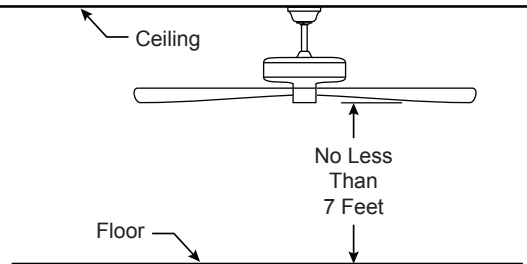

Figure 2
- 6. While pulling up on the hanger ball, securely tighten the two 3/16-24 x 3/8" setscrews in the downrod support. Slide the motor coupling cover down. (Figures 2 & 3)
The fan must be hung with at least 7' of clearance from floor to blades. (Figure 2)